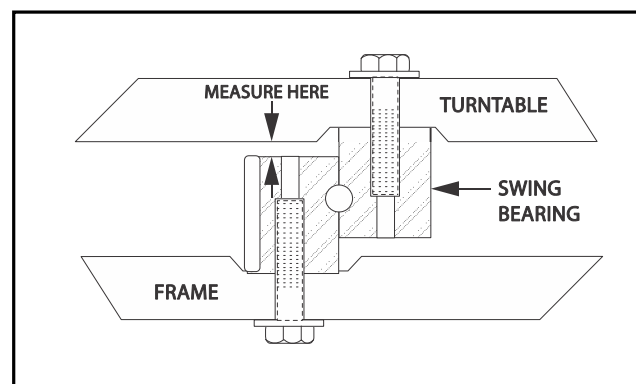
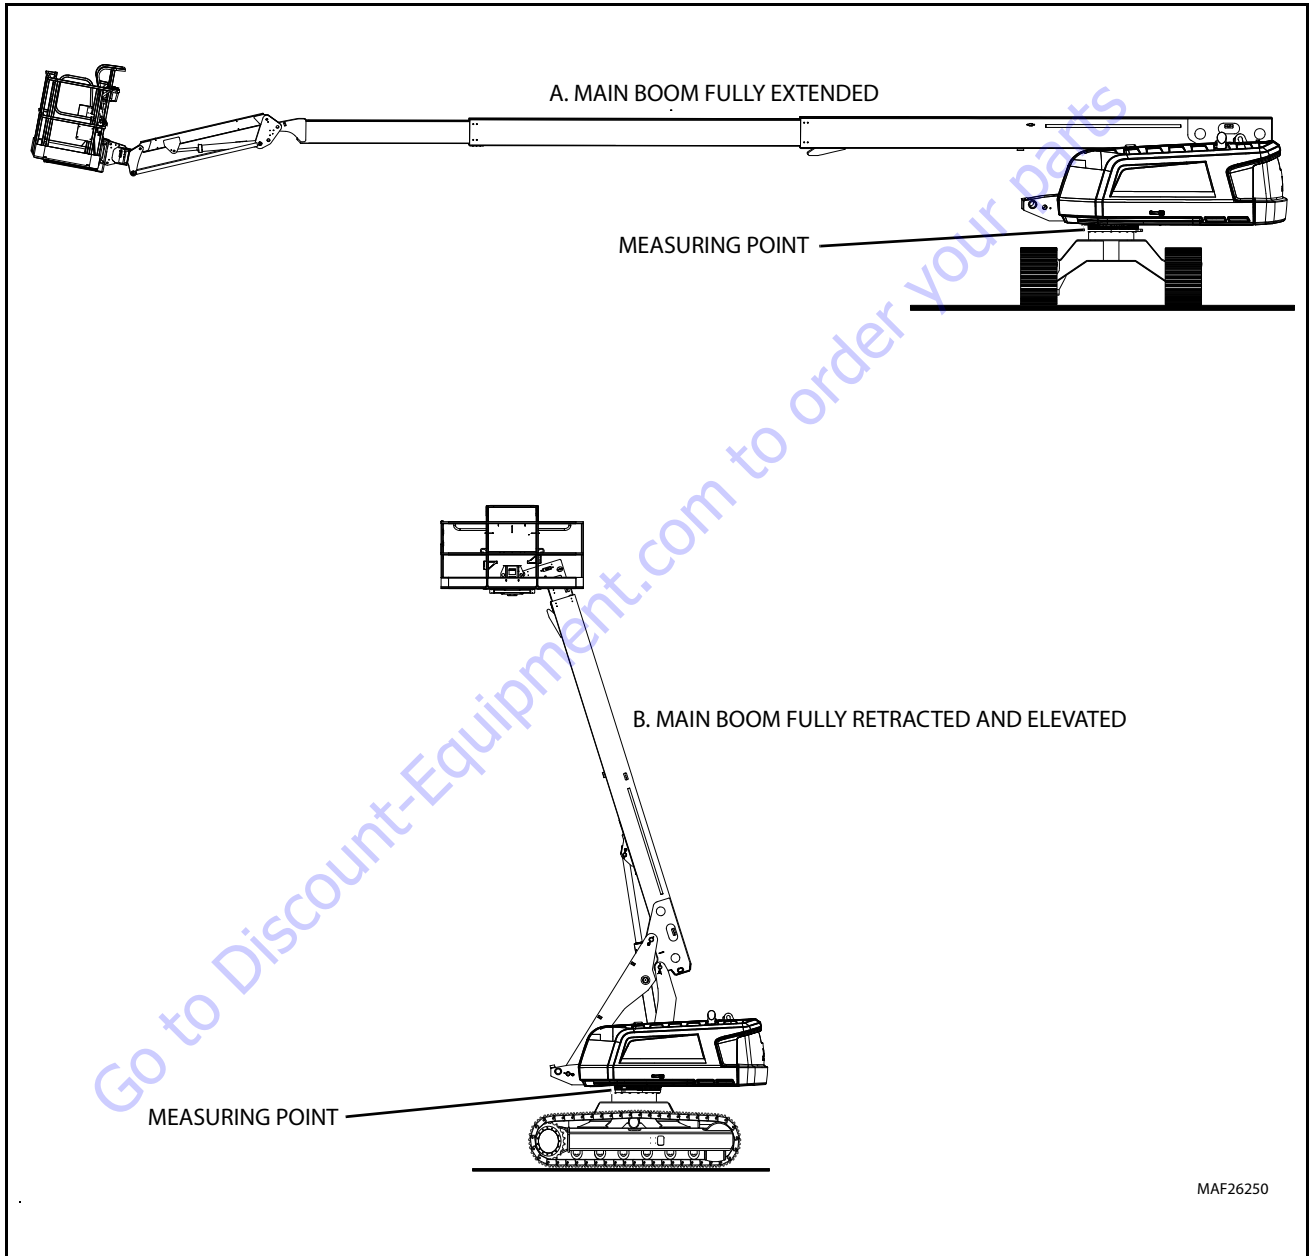

Figure 3-10. Swing Bearing Tolerance Measuring Point
Figure 3-11. Swing Bearing Tolerance Measurement Location & Boom Placement
1. From underside of the machine, at rear center, with the boom fully elevated and fully retracted, as shown in Figure 3-11., Swing Bearing Tolerance Measurement Location & Boom Placement A, using a magnetic base dial indicator, measure and record distance between swing bearing and turntable as shown in Figure 3-10., Swing Bearing Tolerance Measuring Point.
2. At the same point, with the boom horizontal and fully extended, as shown in the Figure 3-11., Swing Bearing Tolerance Measurement Location & Boom Placement B, using a magnetic base dial indicator, measure and record distance between swing bearing and turntable as shown in Figure 3-10., Swing Bearing Tolerance Measuring Point.